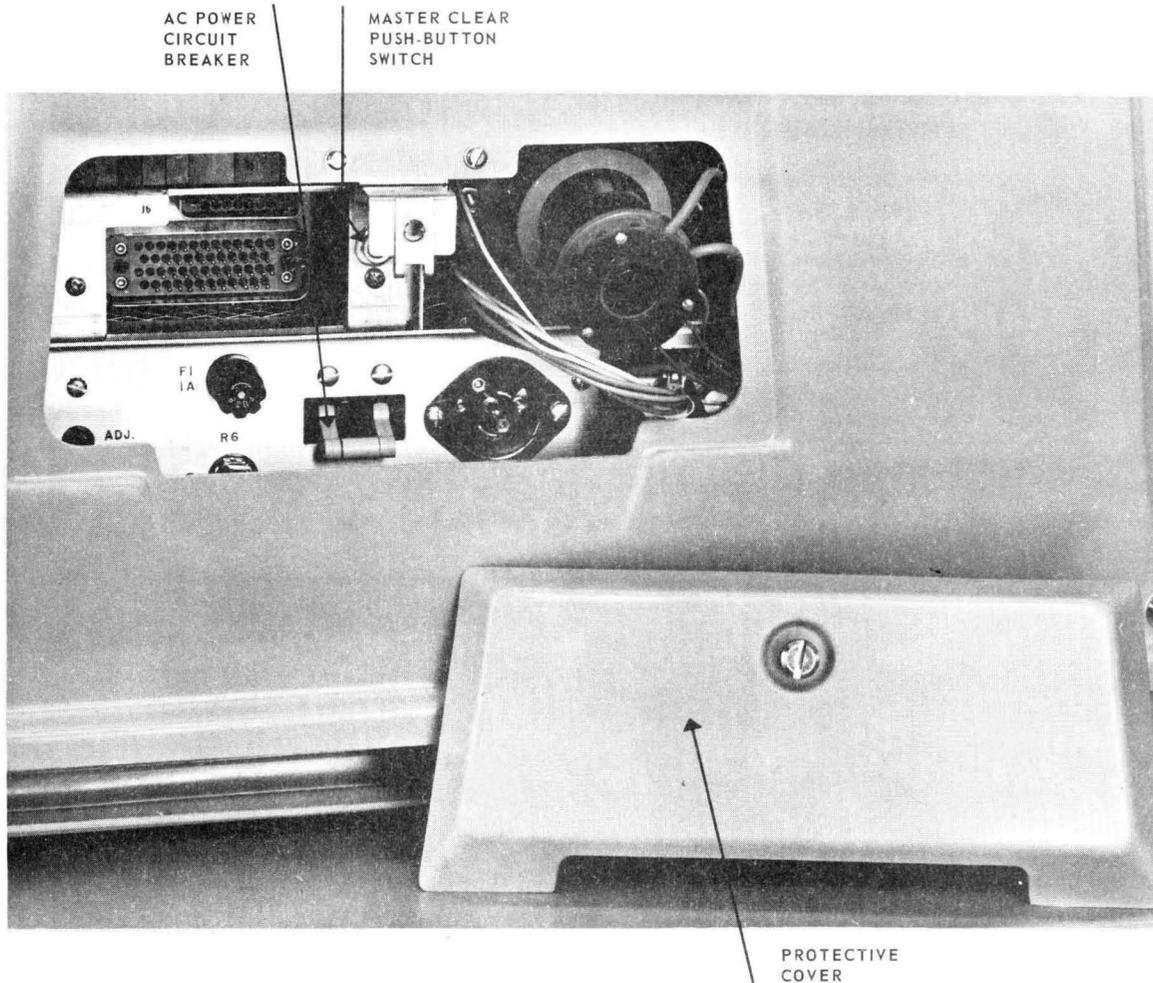
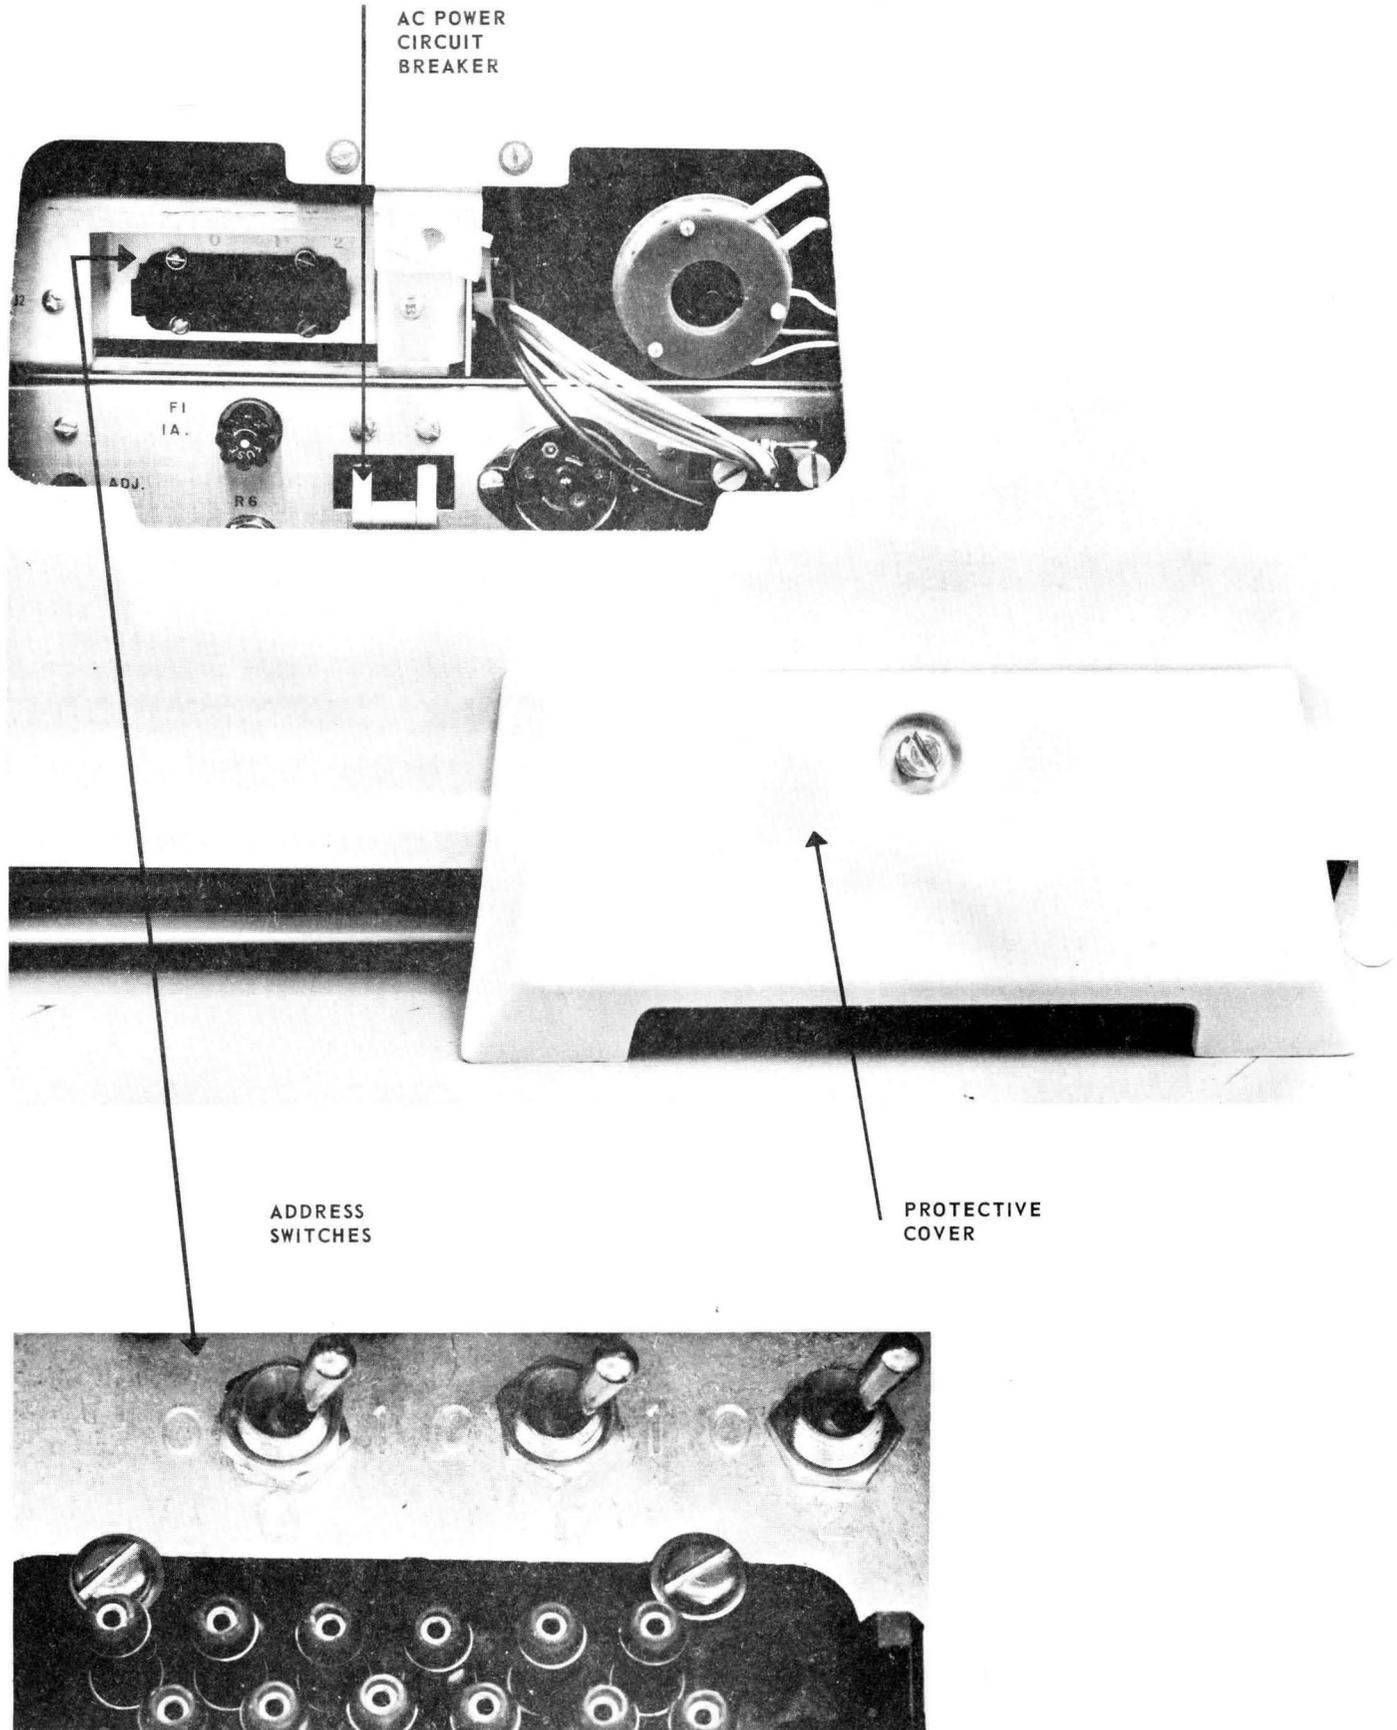
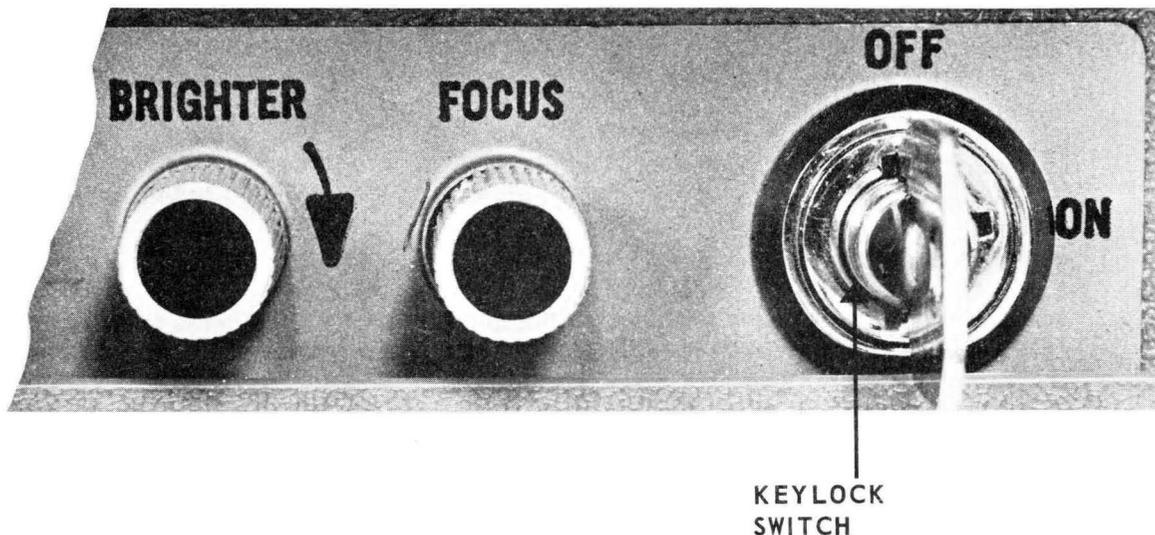

Figure 3-2. Single Station UNISCOPE Terminal, Rear View
Figure 3-3. Multi-Station UNISCOPE Terminal, Rear View
Figure 4-1. Display Controls
The Power Control Panel for the SSU consists of one circuit breaker and a push-button switch (see Figure 3-2). These controls allow the operator to turn power on and off and to reset the logic circuits. The function of each operating component is described in Table 3-2.
The Power Control Panel for the MSU consists of one circuit breaker and two or three toggle switches. (MSU Type Number 3526-00 has 2 toggle switches and MSU Type Number 3526-01 has 3 toggle switches.) This panel (shown in Figure 3-3) allows the operator to turn power on and off and to establish an address identifying the MSU terminal. The function of each component is described in Table 3.3.
- (1) Remove protective cover (Figure 3-2) located at the rear of the terminal.
- (2) Set Circuit Breaker to ON (up position). Blower should start.
- (3) Momentarily press Master Clear push-button switch.
- (4) Replace protective cover.
- (5) Turn Keylock Switch in a clockwise direction (Figure 4-1) to ON.
- (6) The cursor (␣) should appear on the screen. If the cursor does not appear, turn the BRIGHTER control in a clockwise direction until the cursor becomes visible.
- (7) The SSU is now ready for operation (see 4.4).
- (1) Remove protective cover (Figure 3-3) at the rear of the terminal.
- (2) Operate Circuit Breaker to ON (up position). Blower should start.
- (3) Replace protective cover.
- (4) Turn Keylock Switch (Figure 4-1) in a clockwise direction to ON. (The Keylock Switch on the MSU terminal turns on the CRT display and also resets the logic circuits).
- (5) The cursor (\uparrow) should appear on the screen at a random position. If the cursor does not appear, turn the BRIGHTER control in a clockwise direction until the cursor becomes visible.
- (6) The MSU is now ready for operation (see 4.4).
In an emergency, when it is required to remove AC power from the SSU terminal quickly, remove the AC power cord from the wall receptacle. If the wall receptacle is not accessible, remove protective cover located at the rear of the SSU terminal (Figure 3-2) and turn off power by means of the circuit breaker. Under normal conditions, turn off the SSU terminal as described in steps (1) through (5).
- (1) Turn Keylock Switch in a counterclockwise direction (Figure 4-1) to OFF.
- (2) Remove protective cover (Figure 3-2) located at the rear of the terminal.
- (4) Operate circuit breaker to OFF (down position).
- (5) Replace protective cover.
In an emergency, when it is required to remove power from the MSU terminal quickly, remove the AC power cord from the wall receptacle. If the wall receptacle is not accessible, remove protective cover located at the rear of the MSU terminal (Figure 3-3) and turn off the power by means of the circuit breaker. Under normal conditions, turn off the MSU terminal as described in steps (1) through (5).
- (2) Remove protective cover (Figure 3-3) located at rear of the terminal.